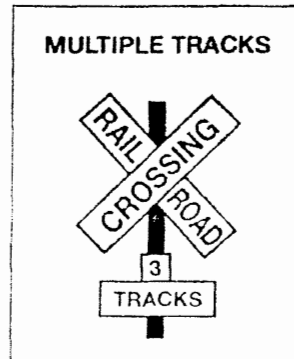

Figure 2.17
**Crossbuck Signs.** This sign marks the grade crossing. It requires you to yield the right-of-way to the train. If there is no white line painted on the pavement, you must stop the bus before the crossbuck sign. When the road crosses over more than one set of tracks, a sign below the crossbuck indicates the number of tracks. See Figure 2.17.